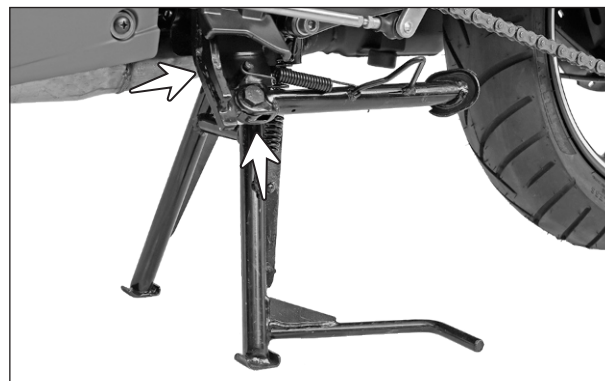

Fig. 2.122
- Lubricate the pivots of center stand and side stand using grease for smooth operation. (Fig. 2.122)